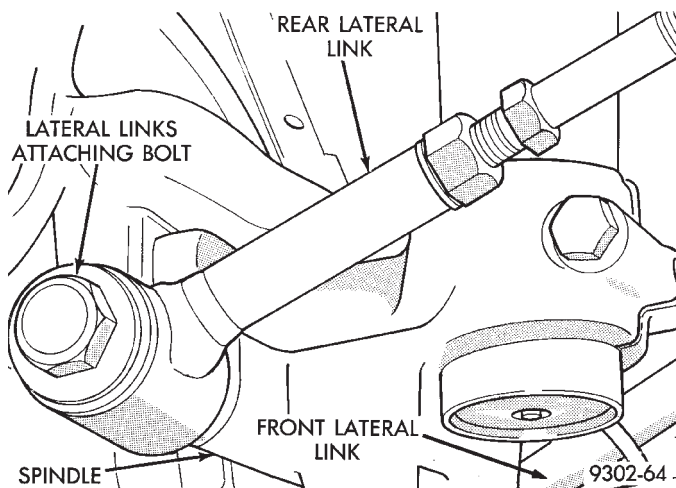

Fig. 9 Lateral Links To Spindle Attaching Bolt
(11) Remove the bolt (Fig. 9) attaching the lateral links to the rear spindle assembly.